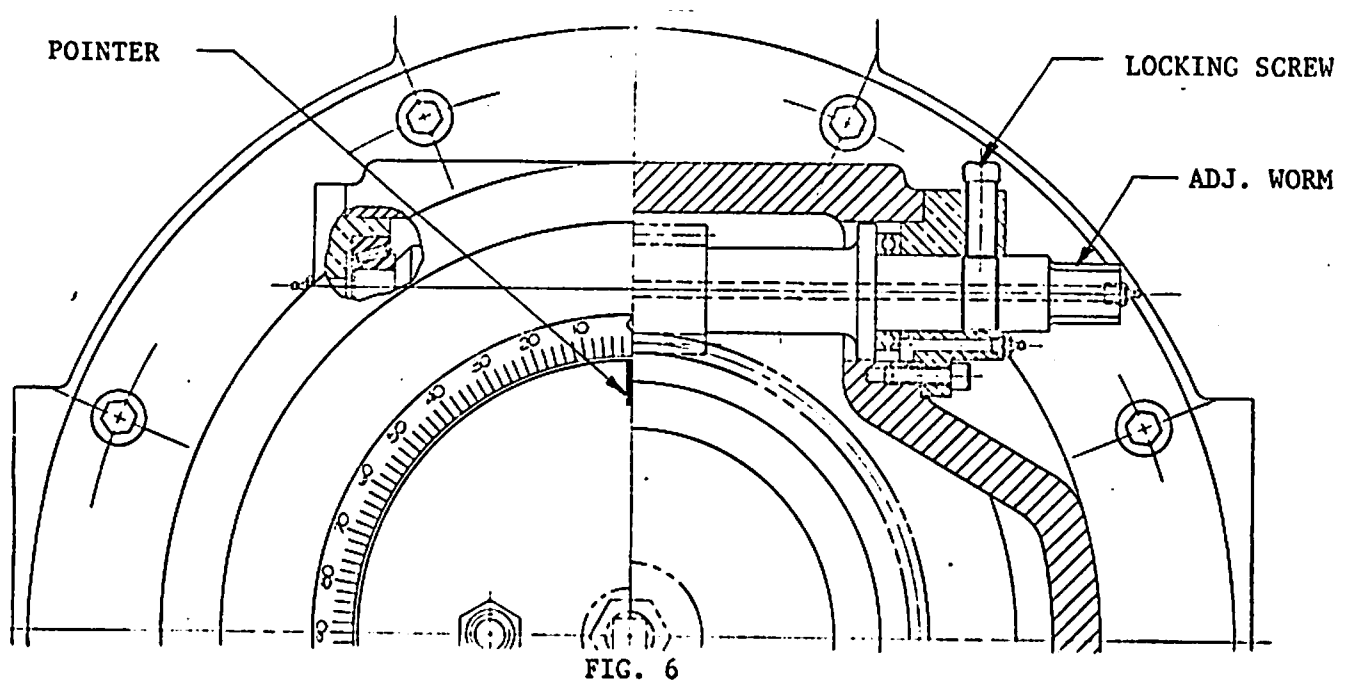

FIG. 6
4. After starting the sheet over the roll adjust the end deckles to the width of the sheet. Both ends are controlled by turning the deckle adjusting screws on the front end plate. (See Figure 6) Clockwise rotation moves deckles out. Counterclockwise rotation moves deckles in. One revolution equals 1/8" deckle travel each end.
3. Loosen adjusting worm locking screw. (See Fig. 6)
4. Turn box adjusting worm (Fig. 6) until pointer lines up with "0" on plaque. This places skids used to support suction box on inside of shell, in down position ready for removal.
7. Remove six (6) socket head set screws in front head and replace with six (6) square head set screws - 3/4" UNC x 4" long. Alternately tighten these set screws so as to give uniform pressure to releasing front head.